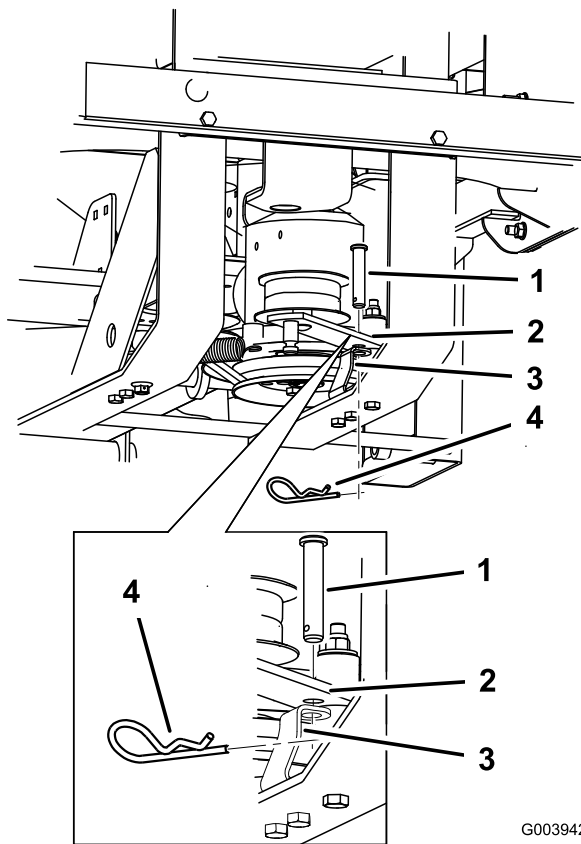

Figure 36
4. Remove the bagger belt. Remove the idler pulley arm only if the machine frame does not have a tab to hold the idler arm (Figure 36). Refer to Securing the Bagger Idler Pulley.
2. Measure 1-1/4 inches (31.75 mm) from the center of the pivot and mark the location (Figure 36).
4. Using the clevis pin from the bagger mount, secure the idler arm by inserting the clevis pin through the idler arm and idler arm bracket (Figure 36).
5. Install the hairpin cotter pin to secure the clevis pin (Figure 36).